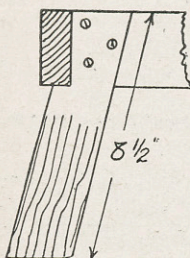

Fig. 2
- Fig. 2. The legs fitted to splay outwards.